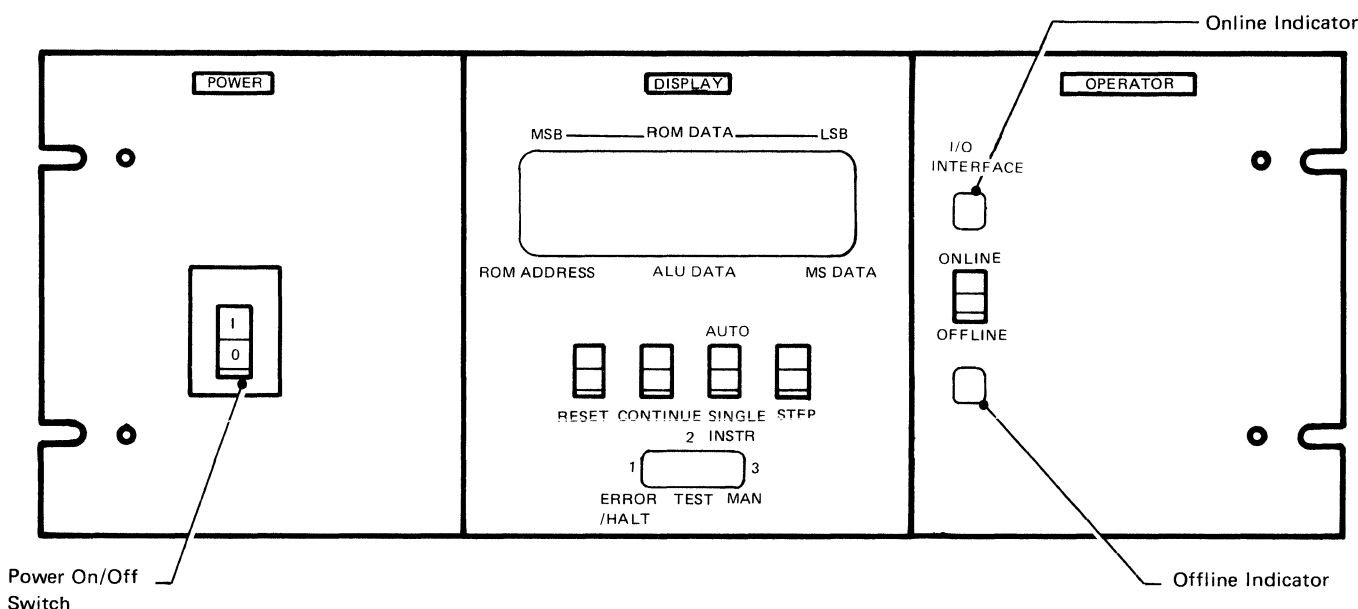

Figure 1-2. 3258 Panel
1. Switch power on by pressing **I** on the power on/off switch (see Figure 1-2).